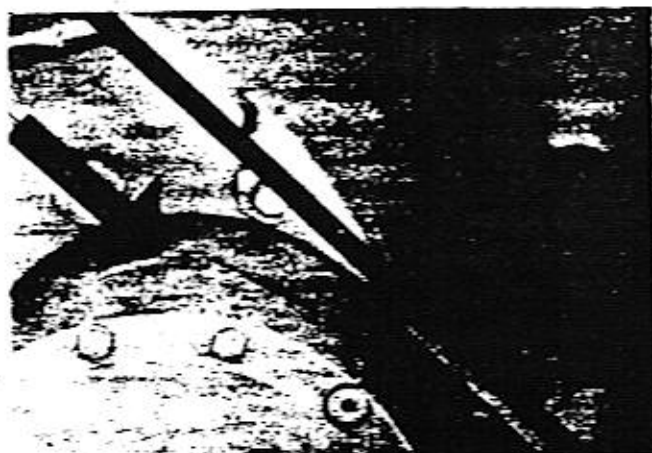

Figure 9-6
4. Check for leaks. See Figure 9-6.